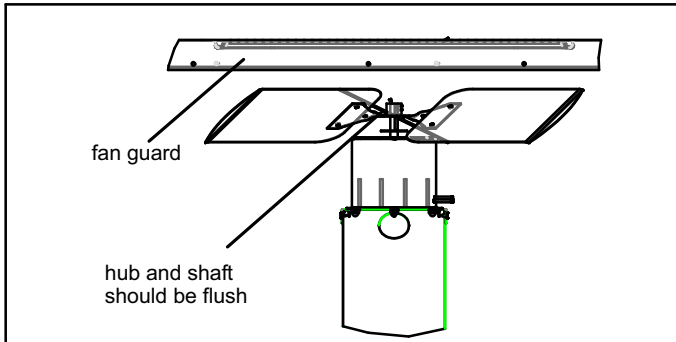

FIGURE 8
All 13GCS (X) units use single phase condenser fans. Specifications for the condenser fans are at the front of this manual. See figure 8 for fan and motor replacement dimensions.